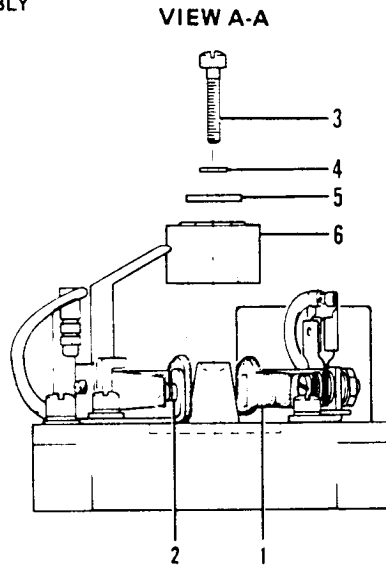

Figure 74-9. Cam End View of Magneto
13. If breaker timing is not correct, loosen cam securing screw (refer to figure 74-9) and unseat main breaker cam from taper. Using 11-3031 Retaining Ring Pliers inserted in holes in cam, rotate main breaker cam in direction of rotation until left main breaker points just open and press cam onto taper. Tighten screw to seat main breaker cam.